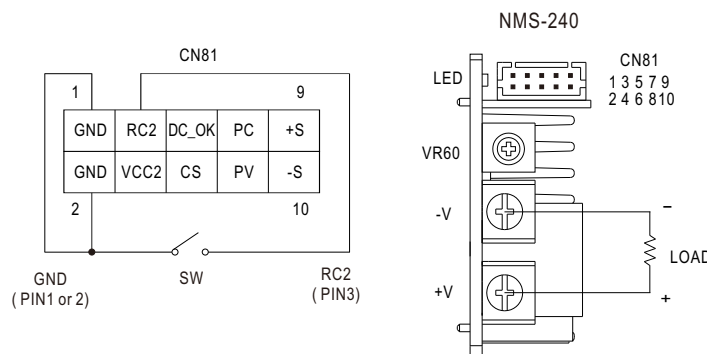

Figure 5-5
- ⊙ Figure 5-5 shows RC2 (CN81 PIN3) and GND (CN81 PIN1 or 2) connection diagram.